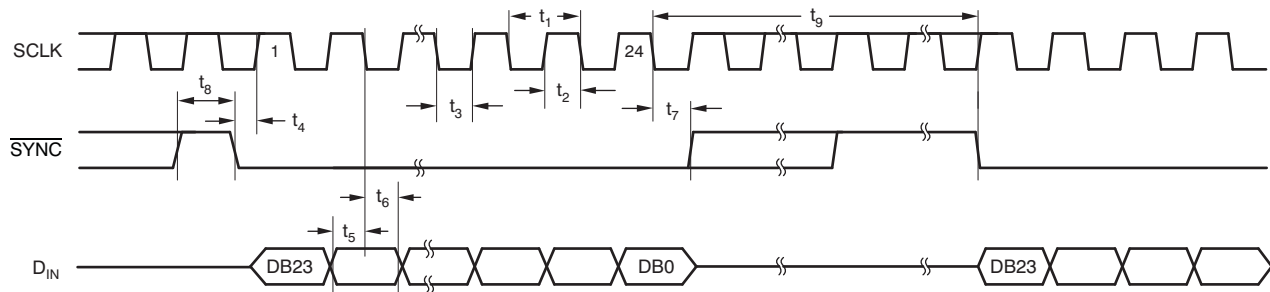

Figure 1. Serial Write Operation
(1) All input signals are specified with $t_R = t_F = 5 \text{ ns}$ (10% to 90% of V_{DD}) and timed from a voltage level of $(V_{IL} + V_{IH}) / 2$.
(2) See Figure 1.
(3) Maximum SCLK frequency is 30 MHz at $V_{DD} = 3.6 \text{ V to } 5.5 \text{ V}$ and 20 MHz at $V_{DD} = 2.7 \text{ V to } 3.6 \text{ V}$.